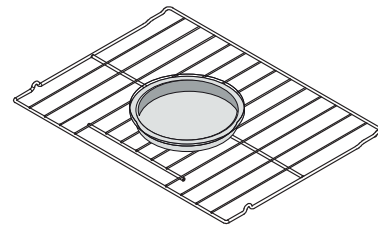
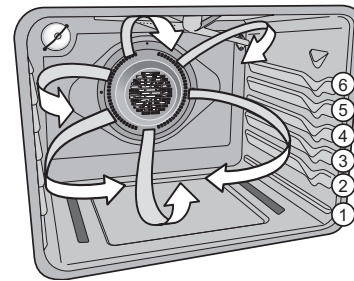

Figure 18: Single rack baking for convenience foods
Figure 19: Oven rack positions
- Always place food in center of the oven on rack position 3 (Figure 19). Place the food as shown in Figure 18.